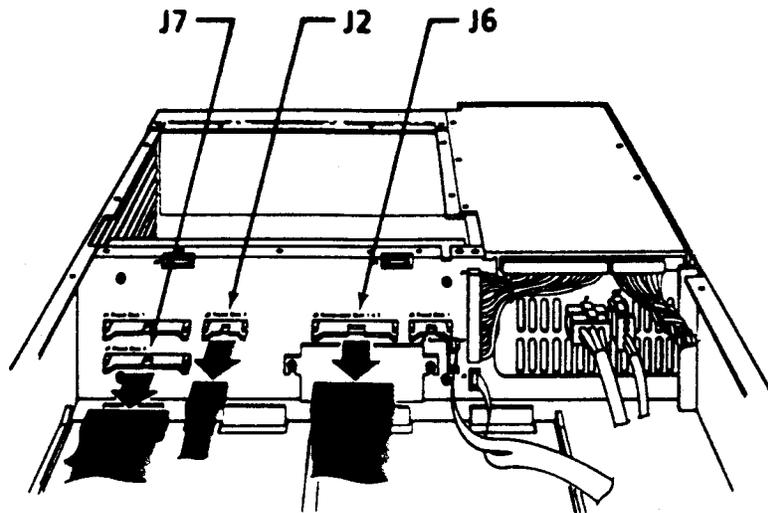

Figure 6-24: Drive Cable Backplane Connectors
11. Without disconnecting the cables from the drives, remove the disk drives, following the procedures described in subsection 6.2.2, steps 1 and 3, and subsection 6.2.4, steps 1 and 2. The drive cables are disconnected from the backplane (Figure 6-24):
6. Making sure that the connectors (Figure 6-24) are properly aligned, reconnect: